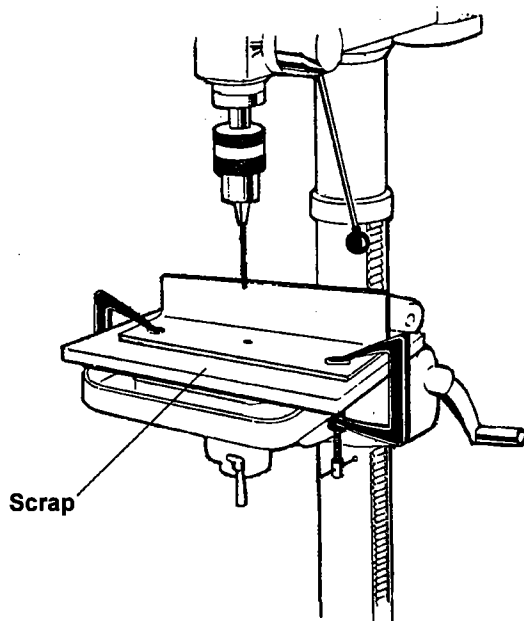

FIGURE 8
**DRILLING IN METAL:** Always use clamps to hold down the workpiece. The workpiece should NEVER be held in the bare hand. The lips of the drill bit could seize the work at any time, especially when breaking through the stock, resulting in a broken drill bit and possible serious injury to the operator. In addition, any tilting, twisting, or shifting results not only in a rough hole but also increases drill breakage. When drilling flat work, place the workpiece on a wooden base and clamp it down firmly against the table as shown in Figure 8.